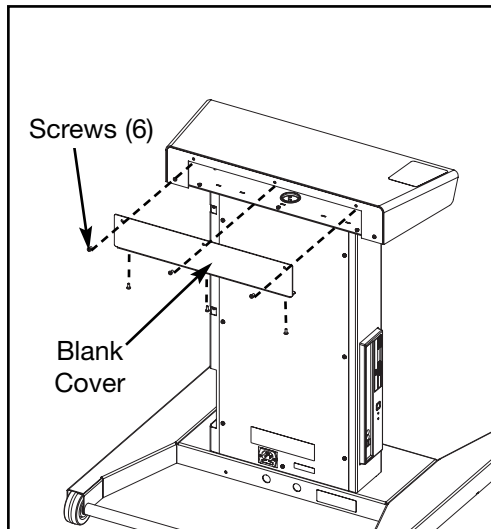

Figure 1
- B. Using the Phillips head screwdriver (#28) remove the six screws securing the blank cover to the cabinet. Set screws aside and discard the blank cover. See Figure 1.